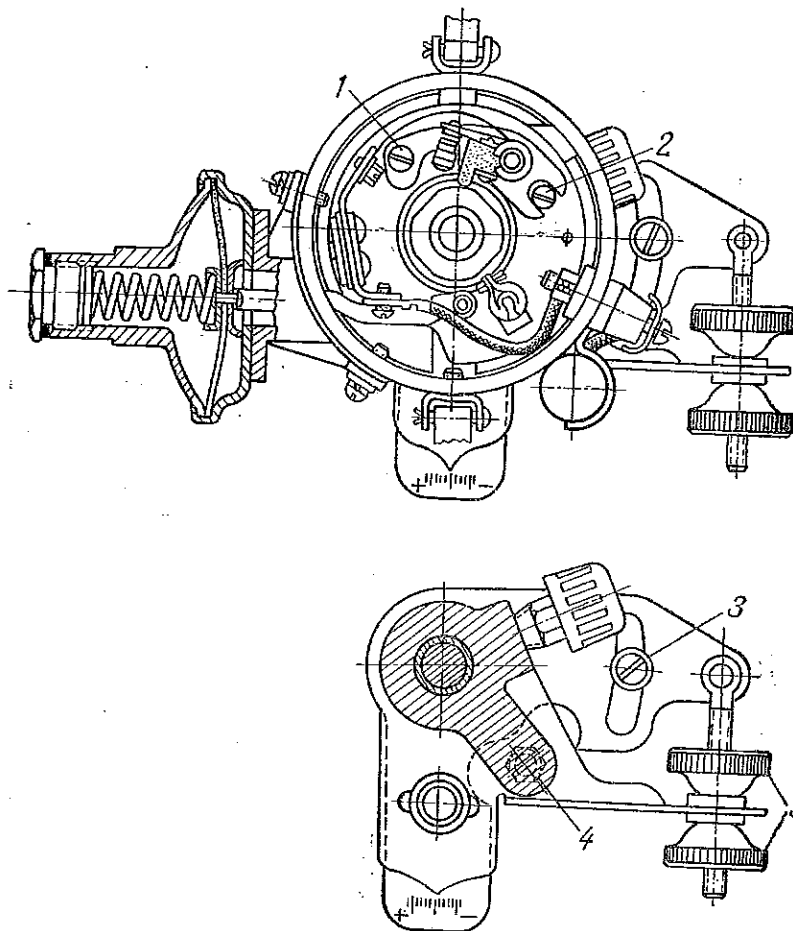

Fig. 16. Ignition Distributor:
To change the gap, loosen the stop screw (Fig. 16) holding the fixed breaker point plate and, turning the adjusting screw, located
7. Loosen the distributor (see Fig. 16) to drive bracket screw and turn the distributor body slightly counter-clockwise, to close the breaker points.